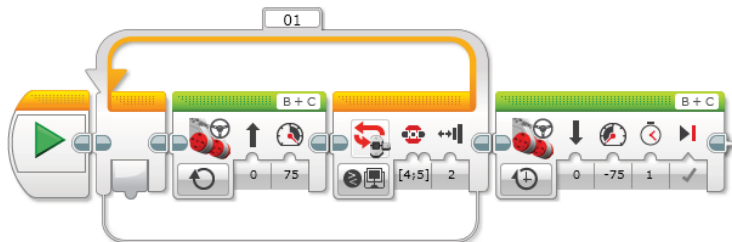

Figure 6-18: The Brick Button mode in the Loop block
The Brick Button mode in the Loop block is similar to the Compare – Brick Buttons mode in the Wait block. The repetition continues until one of the selected brick buttons are activated by one of these actions: released (0), pressed (1), or bumped (2). Let's change the Loop program to look like Figure 6-18. To change the mode in the Loop block, click the mode selector and choose the Brick Button mode. Then, select 4 and 5 for the Brick Button ID input and 2 for the State input.